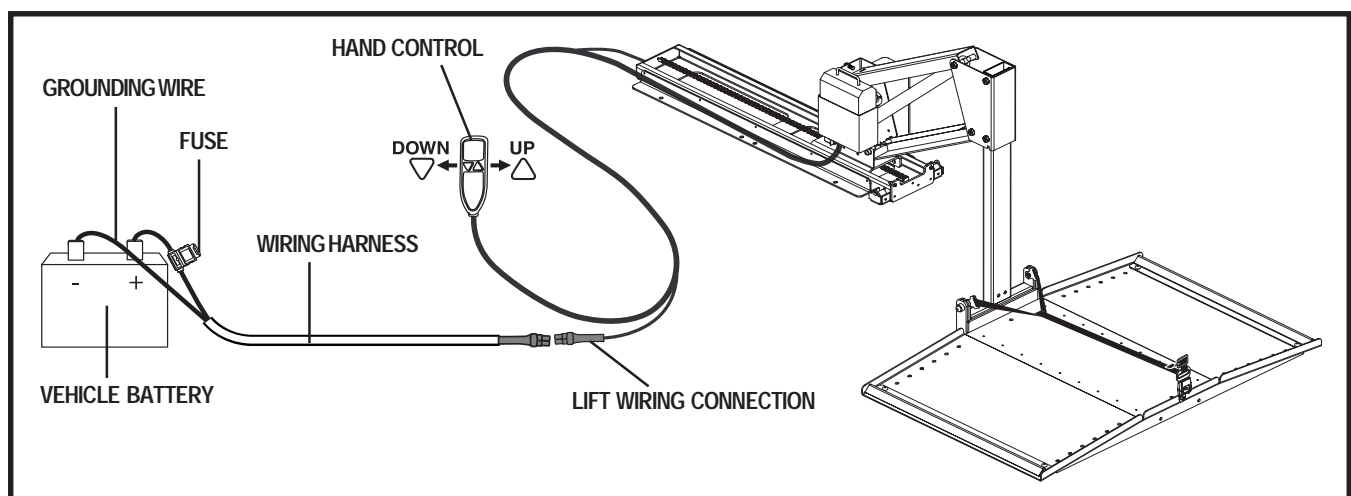

Figure 4. Wiring Harness Installation
1. Route the lift system wiring harness (starting at the lift) through the interior of the vehicle until you reach the vehicle battery. See figure 4.
4. Remove the 15-amp fuse from the wiring harness. See figure 4.